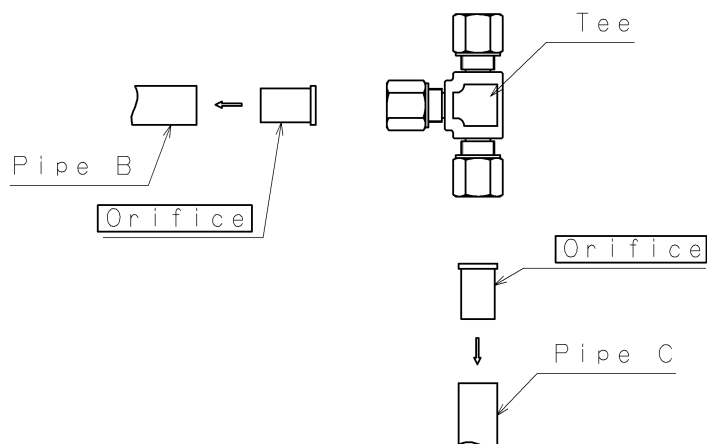

Fig. 8
*2. Orifices are installed between the tee [33], pipe B [35] and pipe C [36]. See Fig. 8 below when installing the orifices.